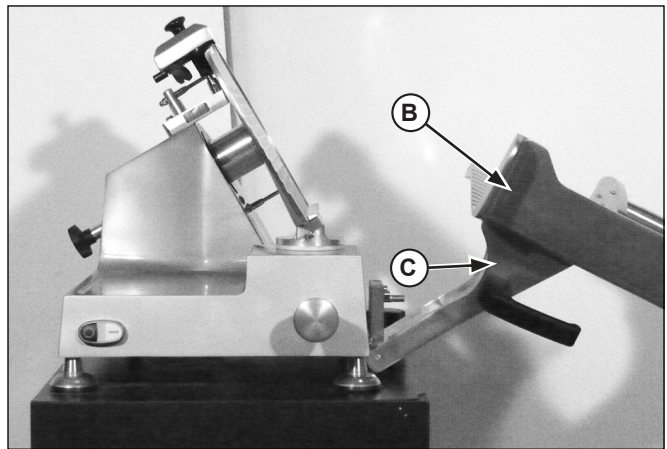

**Figure 6. Carriage Tray Shaft**
8. Unscrew and remove the carriage tray shaft (A). Figure 6.